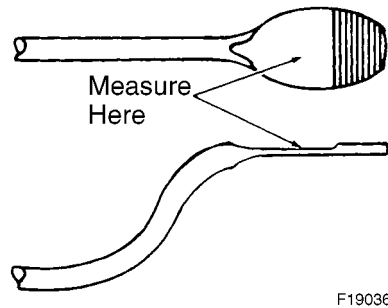

Figure 5-34. Lead Wire Measurement
- D. Bar the engine over one complete revolution to compress the lead wire. Remove the wire from the engine and measure the inboard portion of both compressed ends of the wire, Figure 5-34.